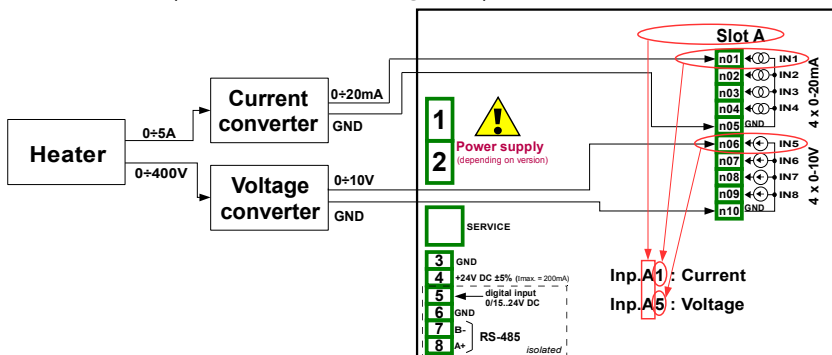

Fig. 7.57. Schematic diagram for the UI4 module
First configure the device as described below, then connect the heater to converters and then to the device (in accordance with **Fig. 7.57**).
- **Source** parameter set as **Inp. A1: Current** (see the connection in **Fig. 7.57**),
- **Source** parameter set as **Inp. A5: Voltage** (see the connection in **Fig. 7.57**),